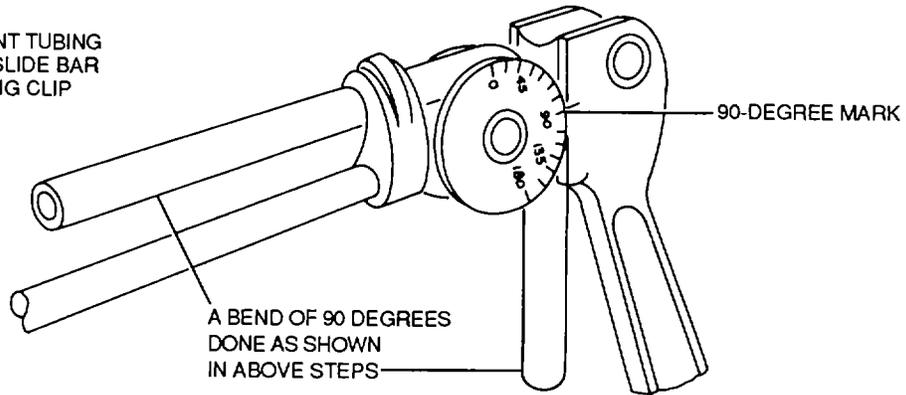

Figure 4-118. Bending Tube
b. Use. The following steps provide procedures for bending tubing (see figure 4-118):
(1) Raise slide bar upward and insert the tubing to be bent.